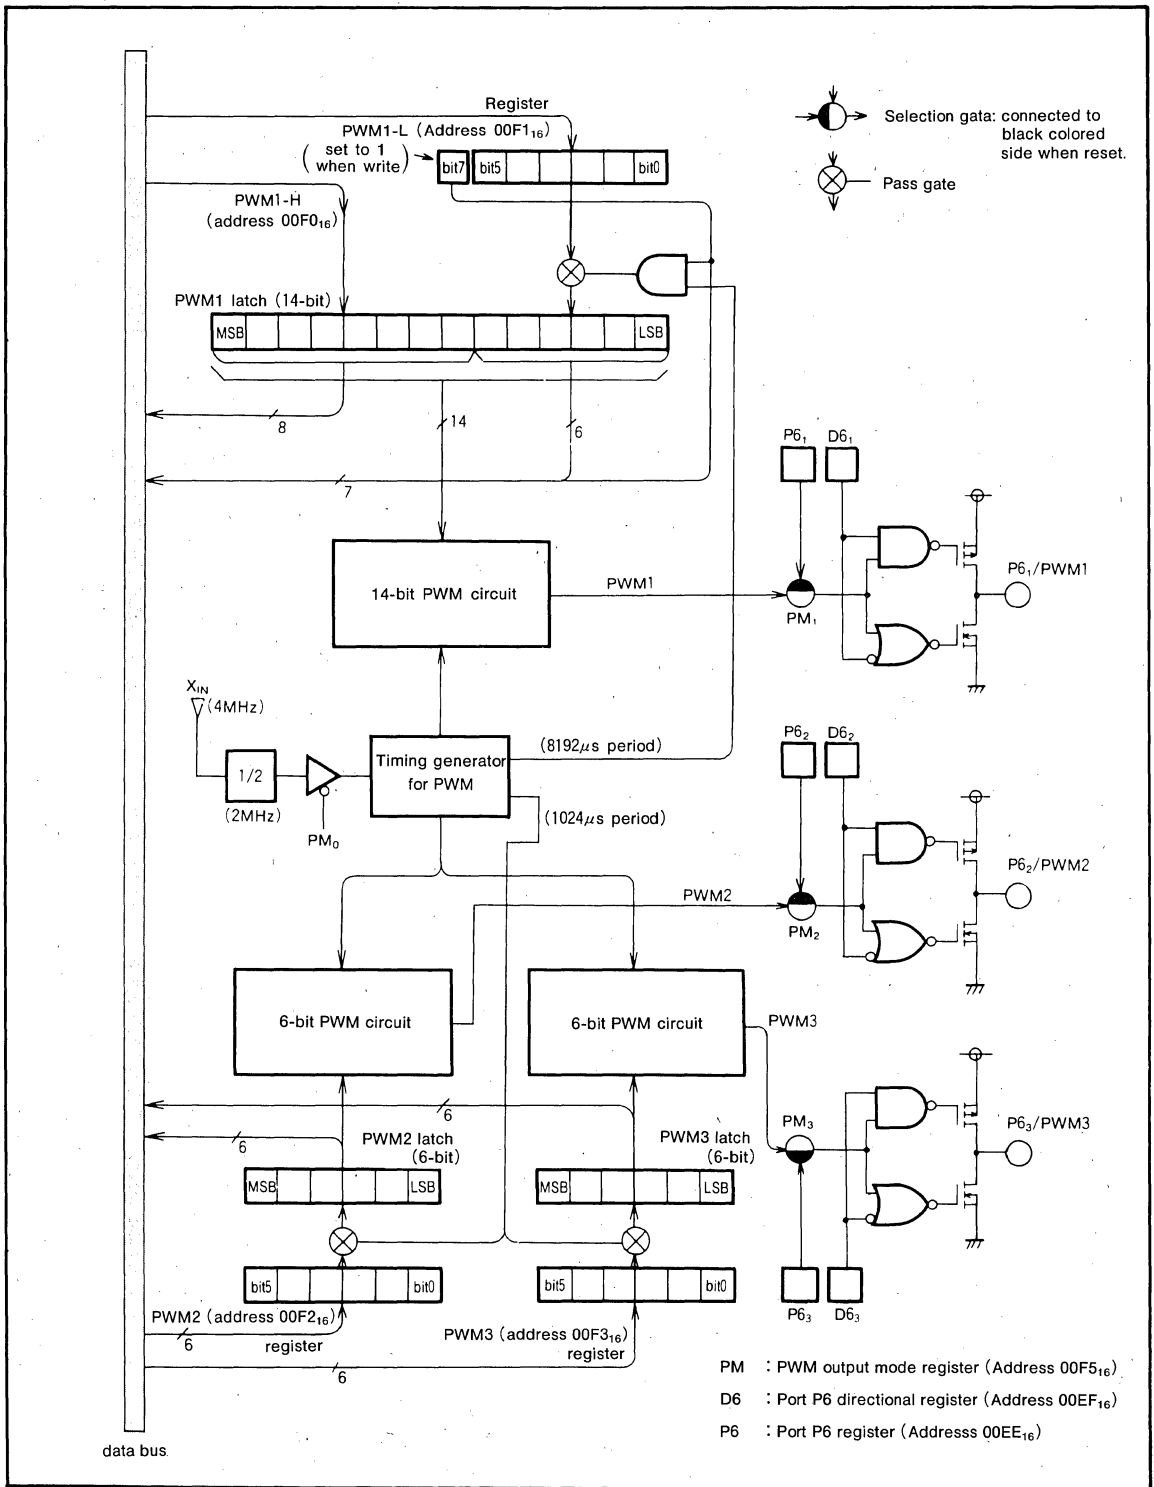

Fig.10 Block diagram of the PWM circuit (M50959-XXXSP)
(4) Operation of the 6-bit PWMs
The timing diagram of the two 6-bit PWMs (PWM2 and PWM3) is shown in Figure 10. One period (T) is composed of 64 (26) segments.